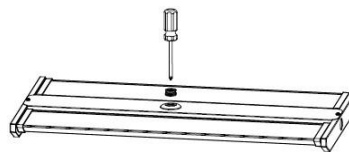

Figure 5
1. Use a screwdriver to remove the 1/2" plug from the sensor port (Figure 5).